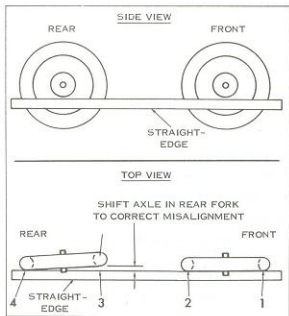

Figure 2-28. Wheel Alignment Diagram
Front and rear wheels should be in perfect alignment. This can be checked on the motorcycle with a straight wooden board or length of string by placing against rear tire sidewall as far up toward axles as possible. Straightedge should be parallel to tires (see Figure 2-28). On 1970 and later FL models, 5.10 x 16 size front tire should be offset $3/16$ in. to right of rear tire. Adjust rear wheel in axle clips as necessary to correct misalignment.
2. Insert a large screwdriver through hole in end of grip (Figure 2-28) and loosen handlebar end screw (1). Handlebar end screw and spring (2) will remain inside grip. Remove grip sleeve assembly (3), exposing working parts.